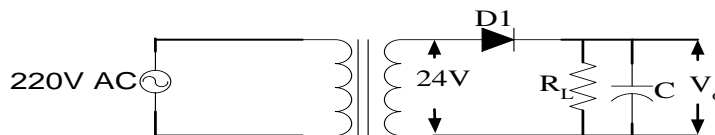
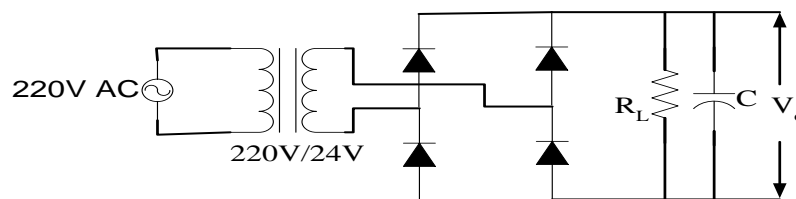
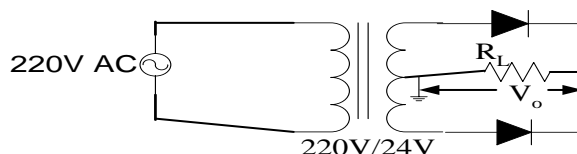

Figure 1: Half wave rectifier.
Figure 2: Full wave Bridge rectifier.
Figure 3: Full wave Center Tapped rectifier.
Implement the circuits (Figure 1, Figure 2 and Figure 3) using PSpice. Observe the input output wave shapes and fill up the tables (Table 1, Table 2 and Table 3) using the simulation tool.
8. Repeat procedures 1 through 7 for circuits in figure 2 and 3.
- 4) Why circuit 2 is better than the circuit in figure 3?